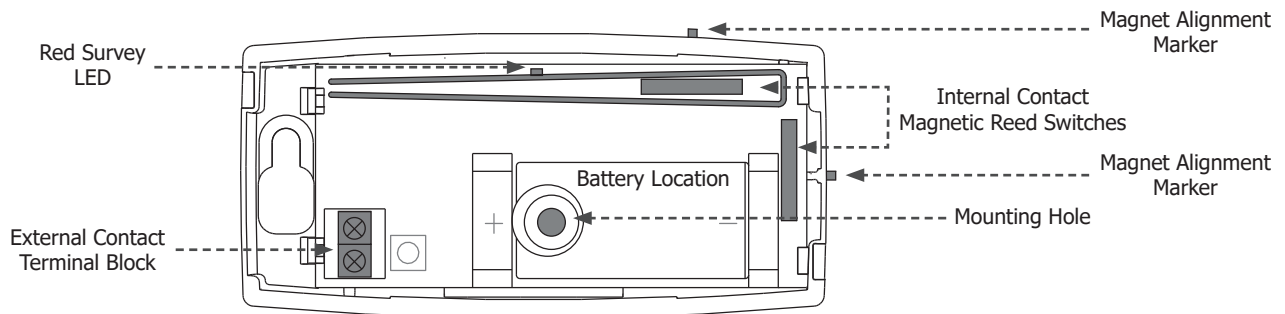

Figure 5: Internal and External Contact Points
4. Place one screw into the mounting hole location shown in Figure 5 and secure the housing to the surface.
3. Place the 3.0V lithium battery in the holder shown in Figure 5 and press into place.